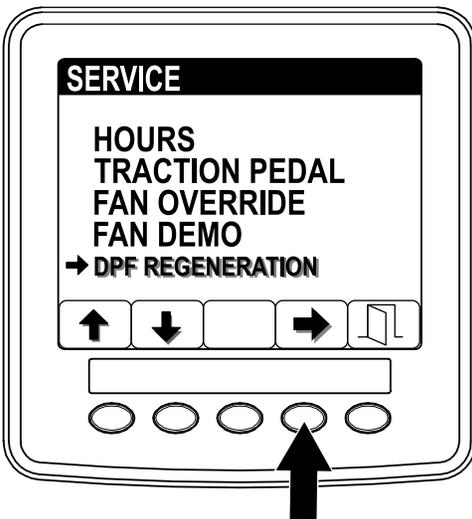

Figure 35
1. Access the Service menu, and press buttons 1 or 2 to scroll to the DPF REGENERATION option (Figure 35).
2. Press the button 4 to select the DPF Regeneration entry (Figure 35).